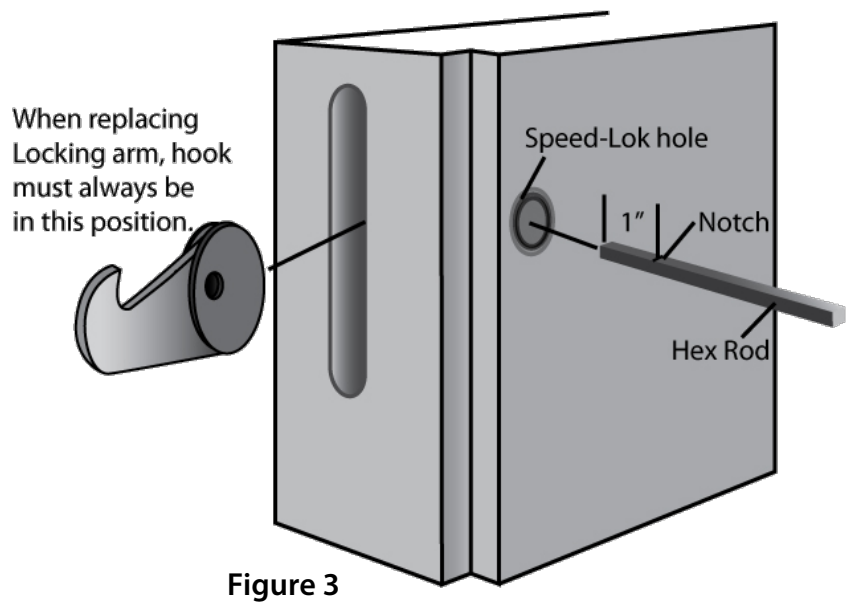

Figure 3
4. Hold the new locking arm in position. Make sure the hook of the arm faces in the proper direction. *See Figure 3.*